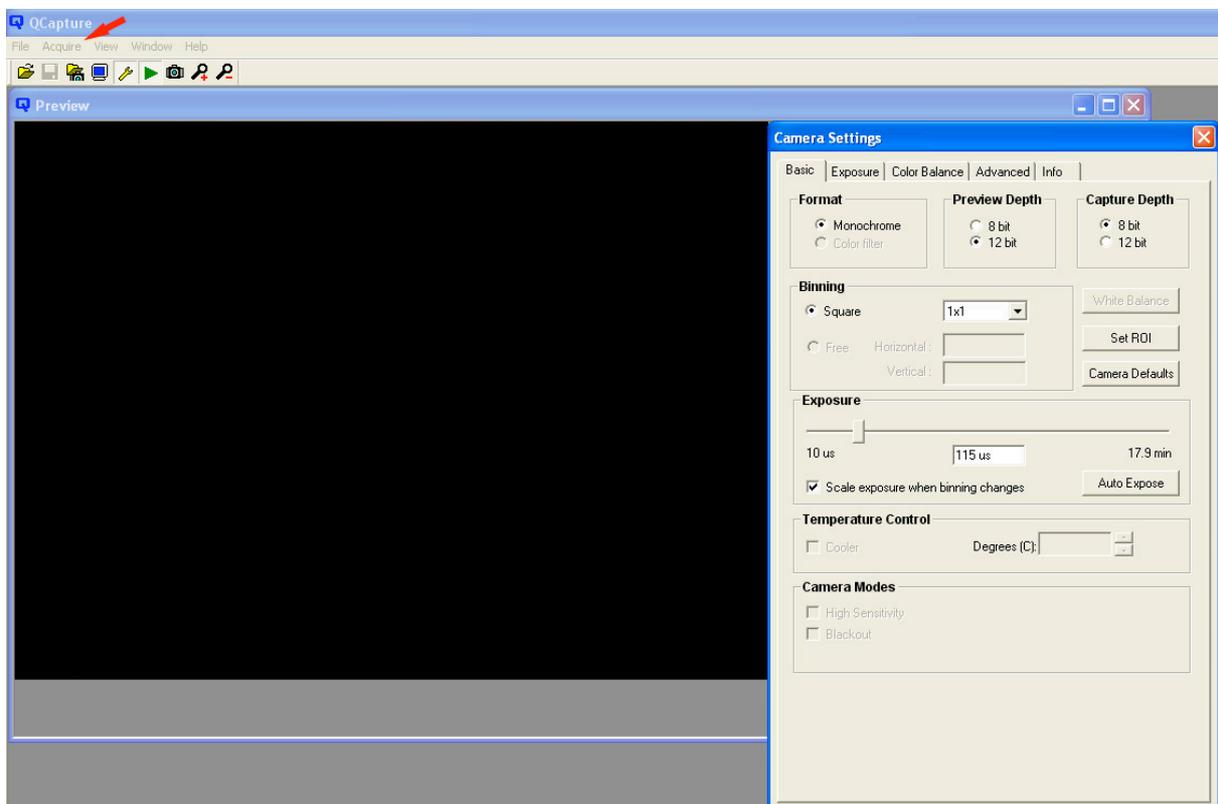

Figure 1. Screenshot of software “QCapture”. Via activating the button “Acquire” (red arrow) a window opens providing a live preview image.
- Start software “QCapture” (desktop; **figure 1**).